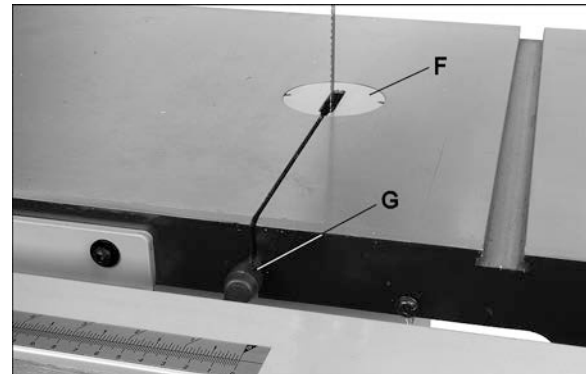

Fig 32
Remove the table insert (F, Fig 32) and the table pin (G).